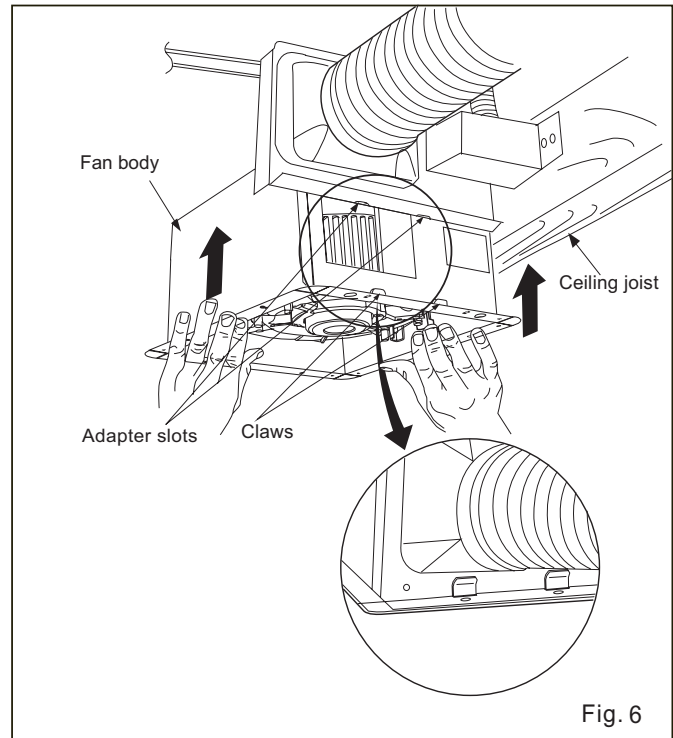

Fig. 6
7. Insert fan body into ceiling. (Fig.6)
4. Insert fan body (without blower section) into ceiling.(Fig.6)